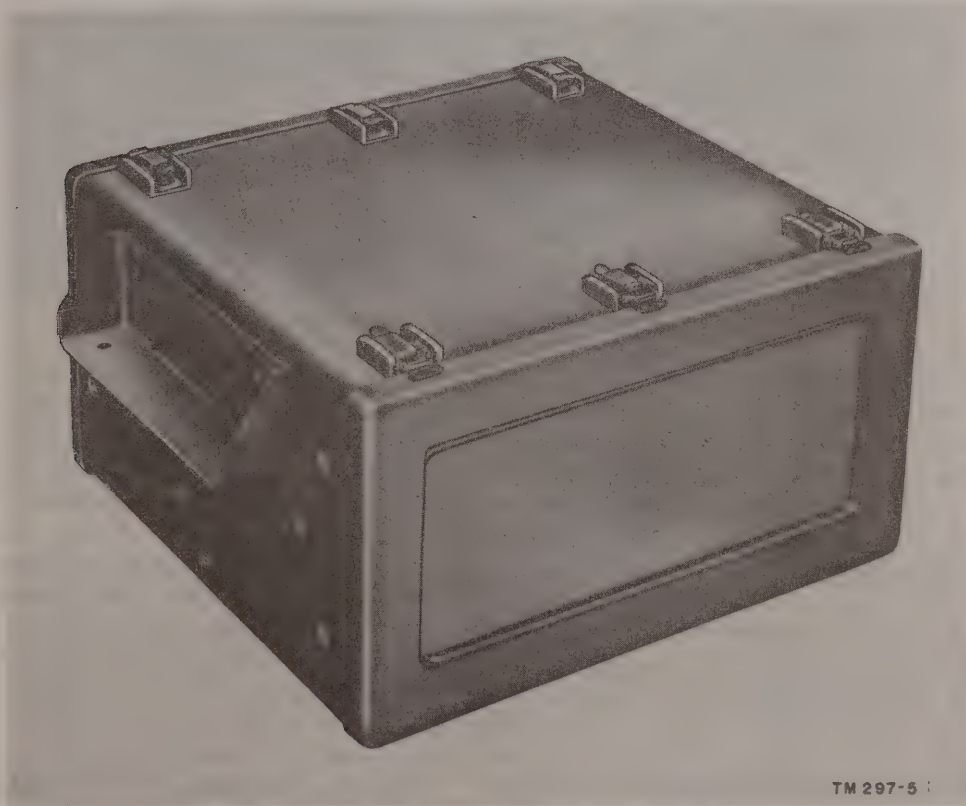

Figure 5. Electrical equipment cabinet CY-938/VRC.
11. Description of Electrical Equipment Cabinet CY-938(*)/VRC (figs. 5 and 28)